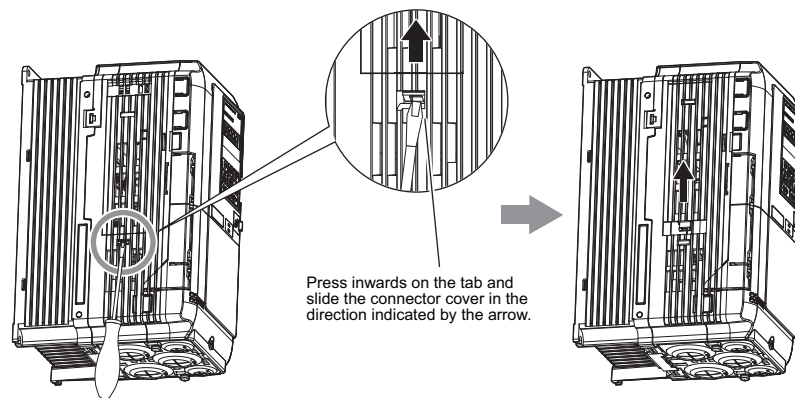

Figure 59 Removing the Connector Cover
1. Insert the tip of a screwdriver into the opening on the edge of the CN19 connector cover. Slide the cover off the drive as indicated in Figure 59.